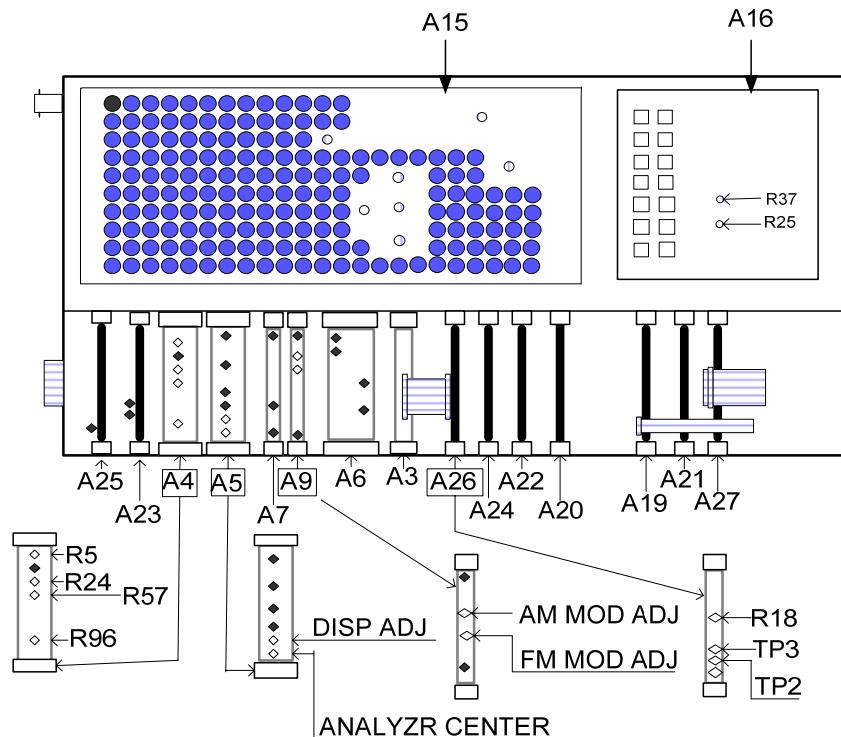

Figure 1. Top view.
(1) Disconnect equipment from TI, press TI **POWER** key off, and remove function generator assembly A24 (fig. 1). Install function generator assembly using extender board (7010-7839-900). Press TI **POWER** key **ON**.